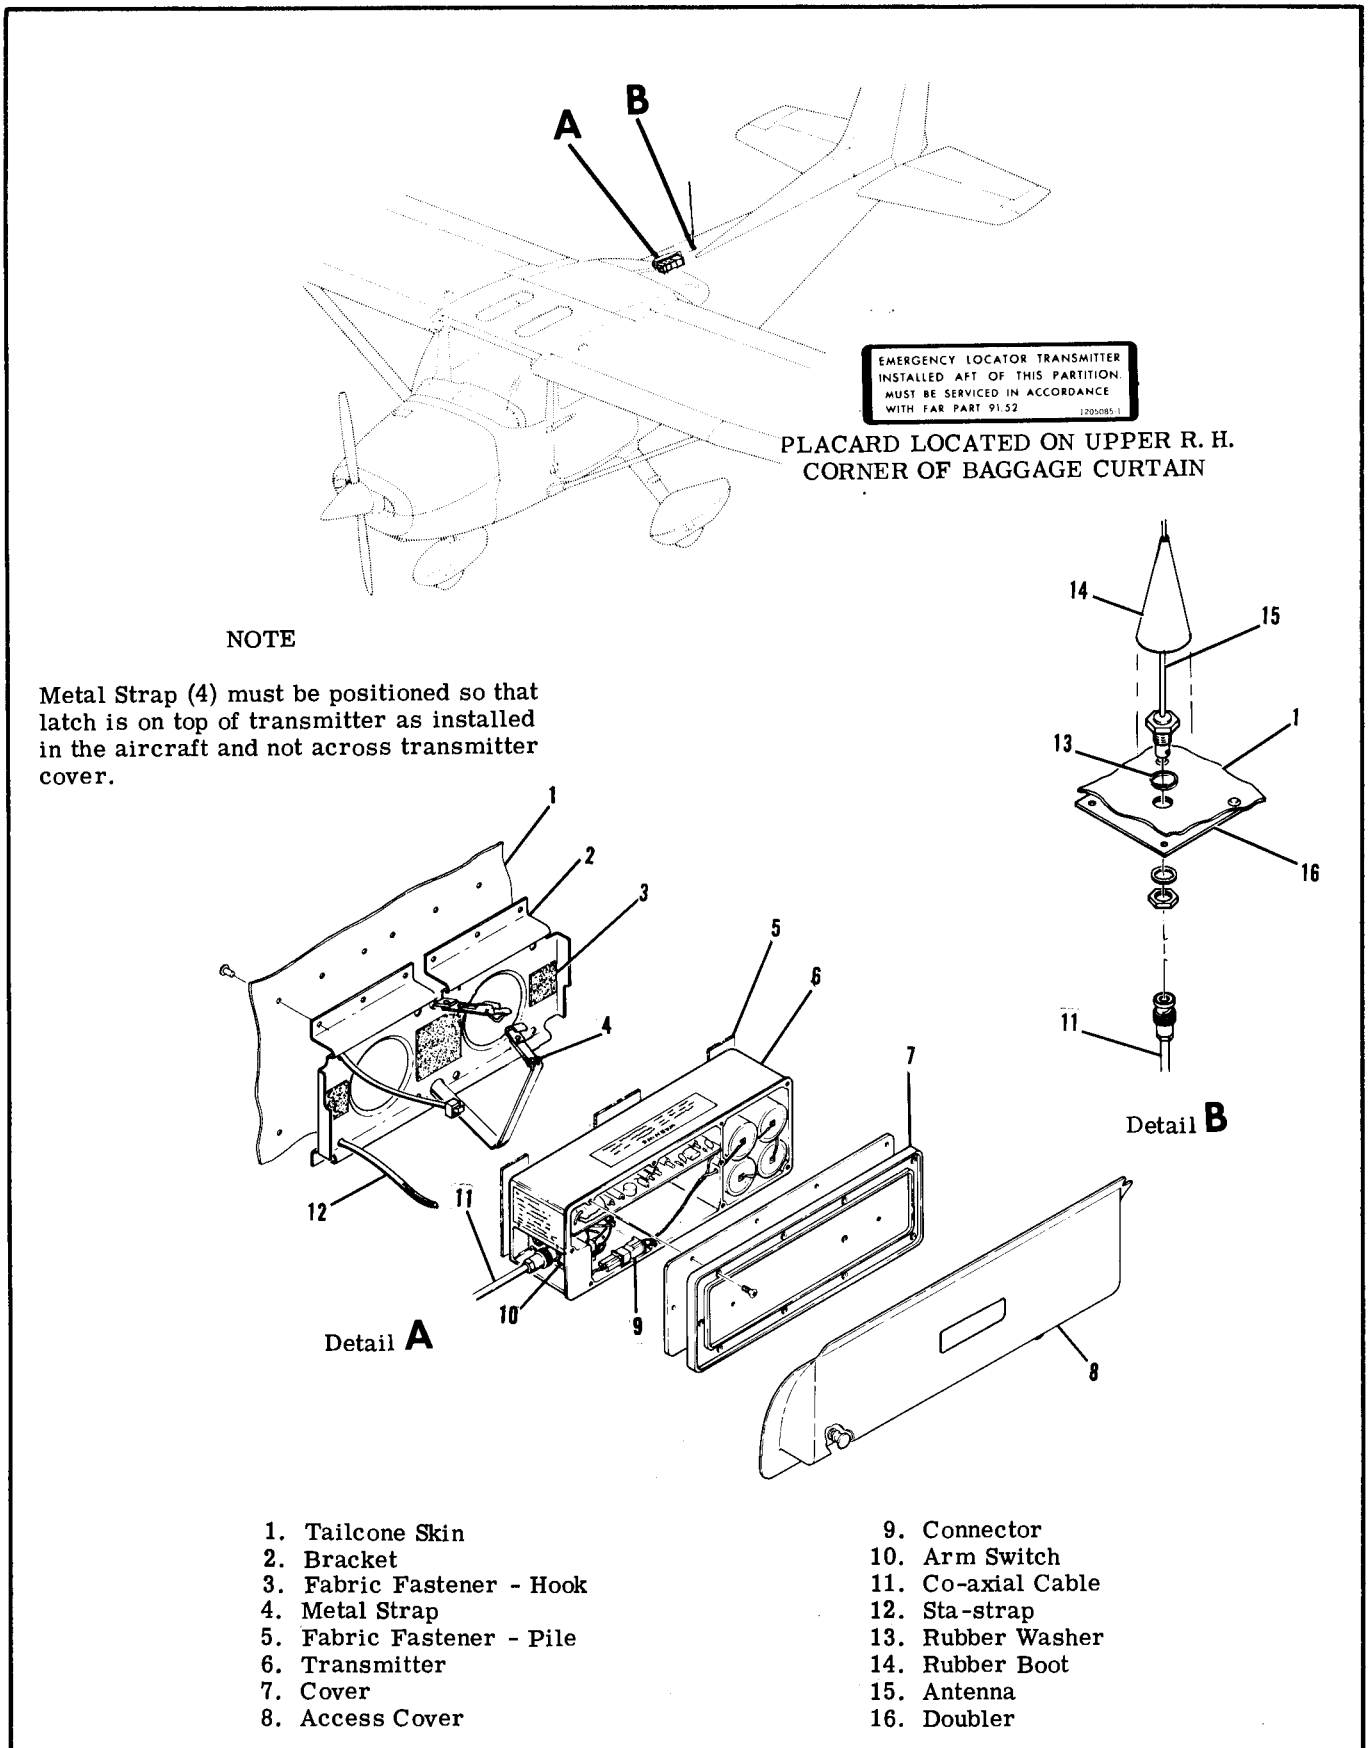

Figure 16-13. Emergency Locator Transmitter Installation
16-89. DESCRIPTION. The ELT is a self-contained, solid state unit, having its own power supply, with an externally mounted antenna. The C589510-0209 transmitter is designed to transmit simultaneously on dual emergency frequencies of 121.5 and 243.0 Megahertz. The C589510-0211 transmitter used for Canadian registry, operates on 121.5 only. The unit is mounted in the tailcone, aft of the baggage curtain on the right hand side. The transmitters are designed to provide a broadcast tone that is audio modulated in a swept manner over the range of 1600 to 300 Hz in a distinct, easily recognizable distress signal for reception by search and rescue personnel and others monitoring the emergency frequencies. Power is supplied to the transmitter by a battery-pack which has the service life of the batteries placarded on the batteries and also on the outside end of the transmitter. ELT's are equipped with a battery-pack containing four lithium "D" size batteries which are stacked in two's (See figure 16-13). The ELT exhibits line of sight transmission characteristics which correspond approximately to 100 miles at a search altitude of 10,000 feet. When battery inspection and replacement schedules are adhered to, the transmitter will broadcast an emergency signal at rated power (75 MW-minimum), for a continuous period of time as listed in the following table.
16-92. REMOVAL AND INSTALLATION OF TRANSMITTER. (Refer to figure 16-13.)
**16-93. REMOVAL AND INSTALLATION OF ANTENNA.** (Refer to figure 16-13.)